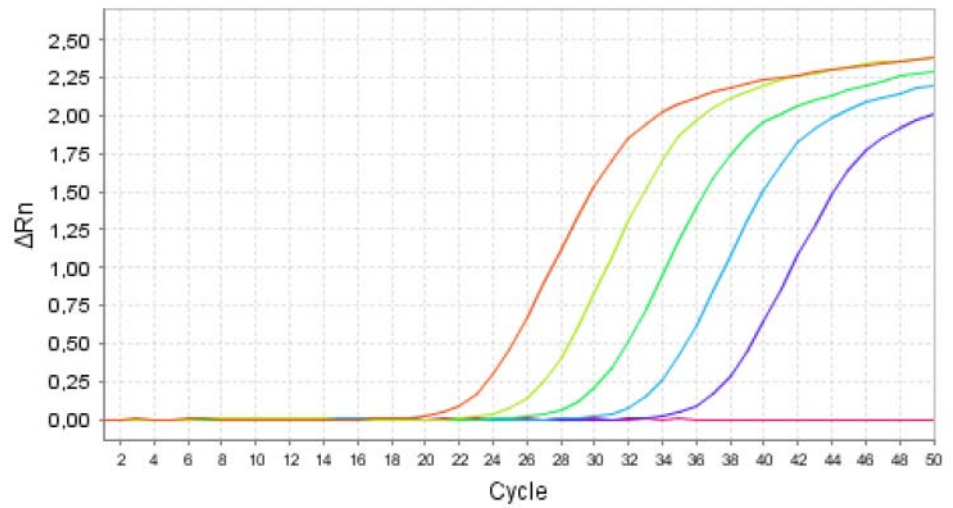
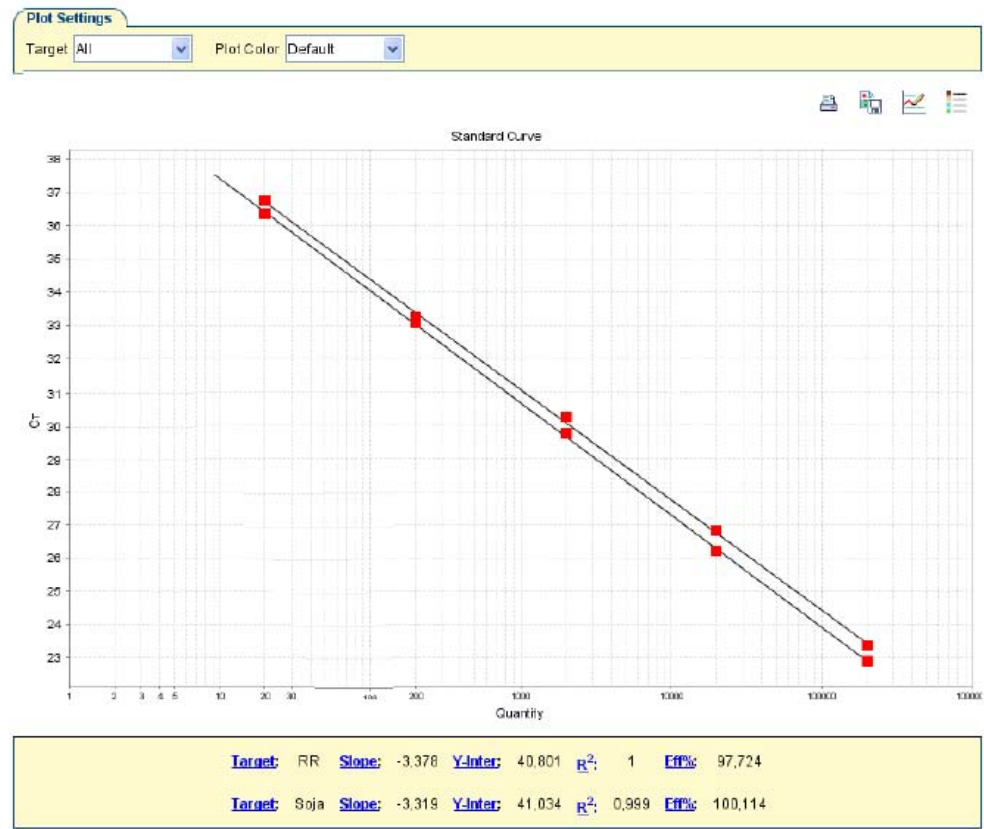

Figure 3 Example amplification curves for Roundup Ready™ Soya Standard dilution series.
Figure 4 Example standard curves for total soy and Roundup Ready™ soy using Roundup Ready™ Soya Standard dilution series.
See Figure 3 and Figure 4 for example data.
Roundup Ready™ Soya Standard dilution series	Amplification should be detected in all five dilutions for both Roundup Ready™ Soya and lectin PCR series (see Figure 3). The standard curves derived from the dilution series should meet the following requirements (see Figure 4): <ul style="list-style-type: none"> • The efficiency of the curve should be 86–110% (slope between -3.7 and -3.1). • The correlation coefficient (R²) should be >0.98.
- a. Calculate the relative quantity of Roundup Ready™ soy and lectin with respect to the Roundup Ready™ Soya Standard in each PCR (Figure 4).